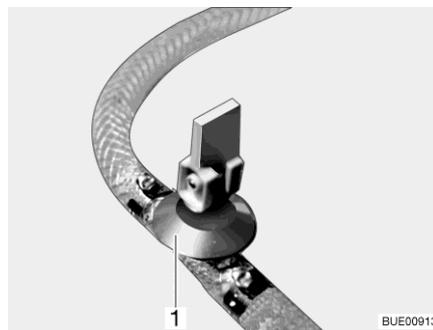

Fig. 150 Drain cock (with rocking lever)
- Close all drain cocks. In order to do this, position the rocking lever of the drain cock (Fig. 150,1) horizontally.